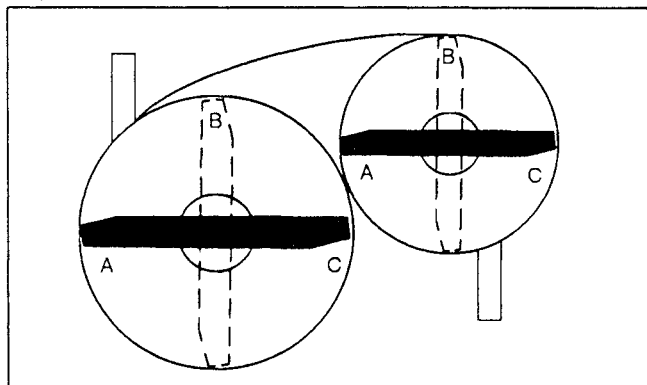
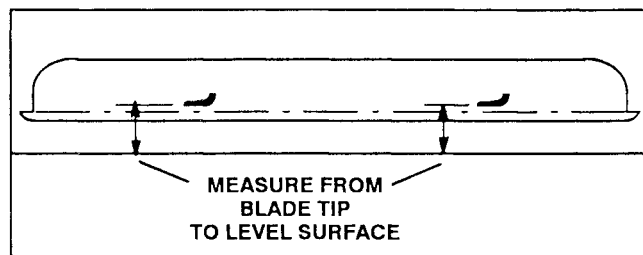

Figure 16
Figure 17
4. Position both blades in the "A" position (Fig. 16) and measure from level surface to the bottom of the tip end of each blade (Fig. 17).
5. Note measurement attained at "A", rotate blades to "B" position (Fig. 16), measure distance of all blades to level surface and note dimensions (Fig. 17).
6. Rotate blades to "C" position, measure and note distance measured (Fig. 16).
B. Transfer one thrust washer from top side of castor shaft to lower side, install castor assembly and compare blade height of all blades; refer to items 3 through 7. Continue adding thrust washers if height still does not meet requirements.
D. Transfer one thrust washer from lower side of castor shaft to top side, install assembly and compare blade height of all blades; refer to items 3 through 7. Repeat procedure if height still does not meet requirements.